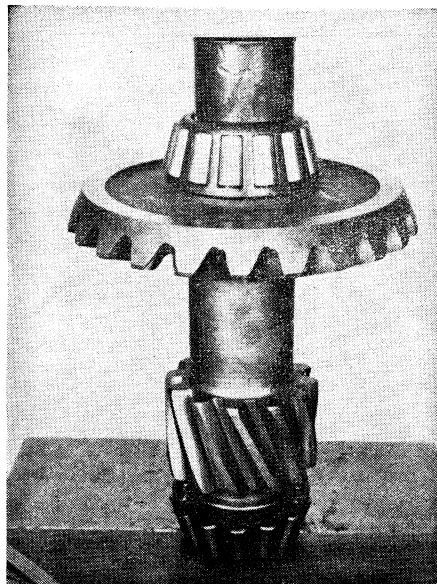

Fig. 63 Press bearing firmly against bevel gear, using a suitable sleeve
4. Press bearing firmly against bevel gear, using a suitable sleeve, Fig. 63.